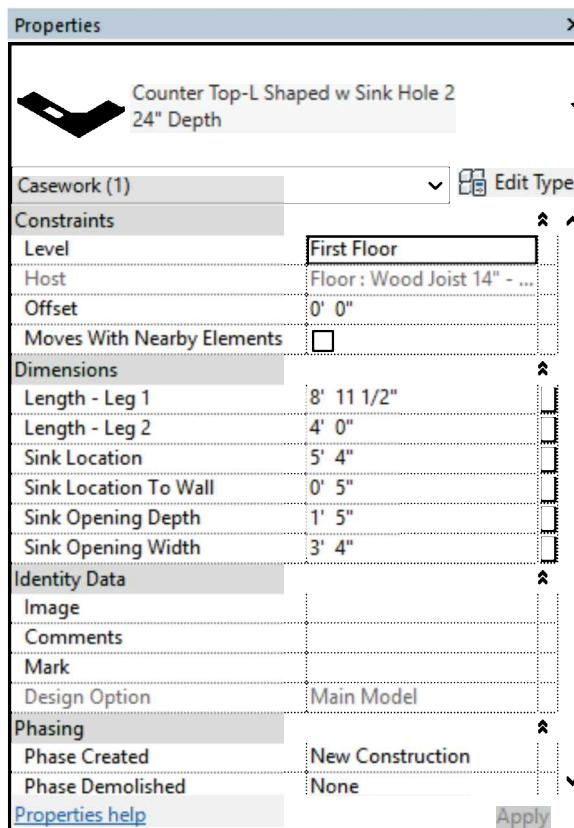

FIGURE 12-2.3 Properties for Counter Top with Sink Hole: 24" Depth
7. Change the following (Figure 12-2.3):